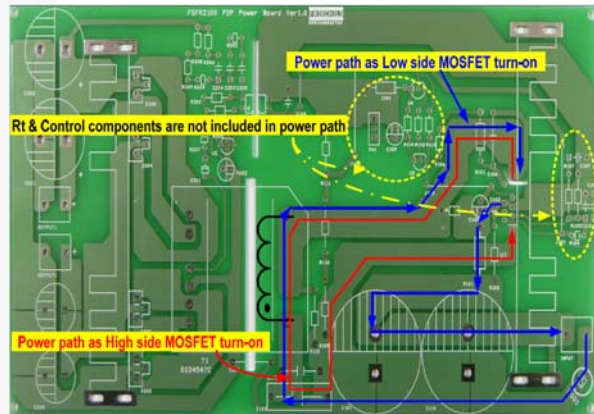

Figure 25. Example for Duty Balancing
7. PCB Layout Guidelines: Duty imbalance problems may occur due to the radiated noise from the main transformer, the inequality of the secondary side-leakage inductances of main transformer, and so on. This is one of the reasons that the control components in the vicinity of R_T pin are enclosed by the primary current flow pattern on PCB layout. The direction of the magnetic field on the components caused by the primary current flow is changed when the high- and low-side MOSFET turn on by turns. The magnetic fields with opposite directions induce a current through, into, or out of the R_T pin, which changes the turn-on duration of each MOSFET. It is strongly recommended to separate the control components in the vicinity of R_T pin from the primary current flow pattern on PCB layout. Figure 25 shows an example for the duty-balanced case.